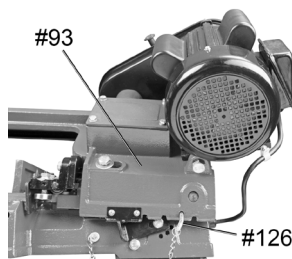

Fig. 14
6. Remove the Locking Pin (#126) and turn the Support Plate (#127) counterclockwise until it disengages from the Body Frame (#93 [Fig. 14]).